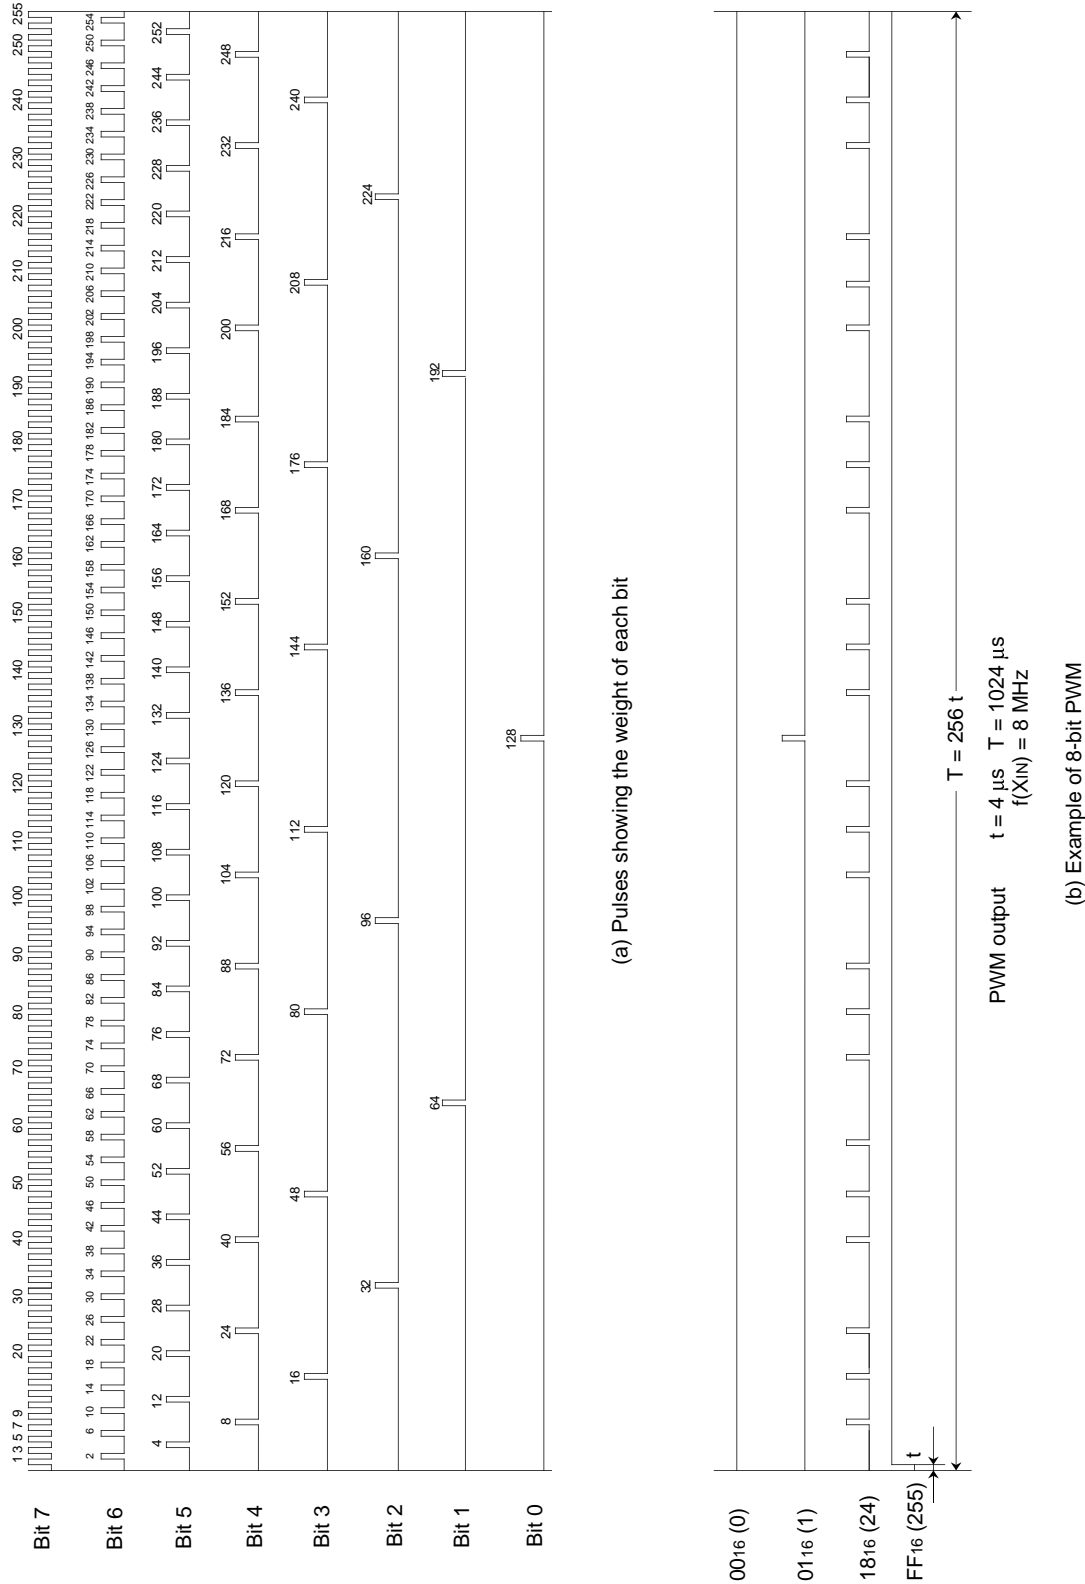

Fig. 14. 8-bit PWM timing
Figure 14 shows the 8-bit PWM timing. One cycle (T) is composed of 256 (2^8) segments. The 8 kinds of pulses relative to the weight of each bit (bits 0 to 7) are output inside the circuit during 1 cycle. Refer to Figure 14 (a). The 8-bit PWM outputs waveform which is the logical sum (OR) of pulses corresponding to the contents of bits 0 to 7 of the 8-bit PWM register. Several examples are shown in Figure 14 (b). 256 kinds of output ("H" level area: 0/256 to 255/256) are selected by changing the contents of the PWM register. A length of entirely "H" output cannot be output, i.e. 256/256.
(4) Operating of 14-bit PWM